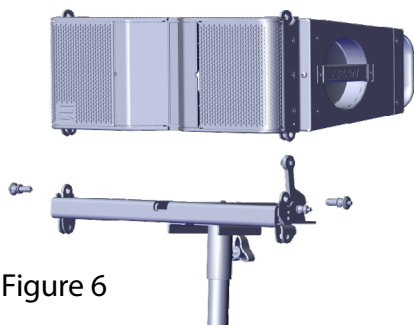
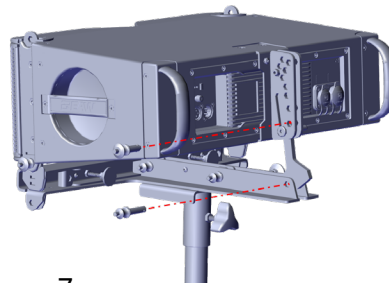

Figure 6
Figure 7
- Place first NT206L on flybar frame and pin both front locations using the pins on the flybar (Figure 6). Swing rear rigging down and pin to rear rigging of the frame using pin attached to the frame (Figure 7). Using pin on first NT206L cabinet, secure by pinning angle lock.